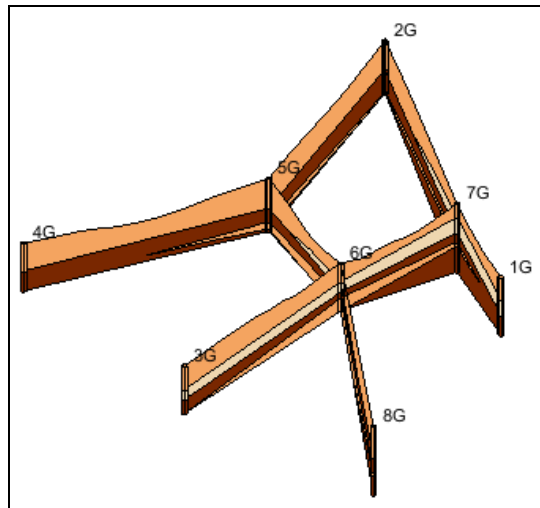

Figure 1 Imported project
4. Select **Open** to import the project (Figure 1) and close the *Open* dialog.